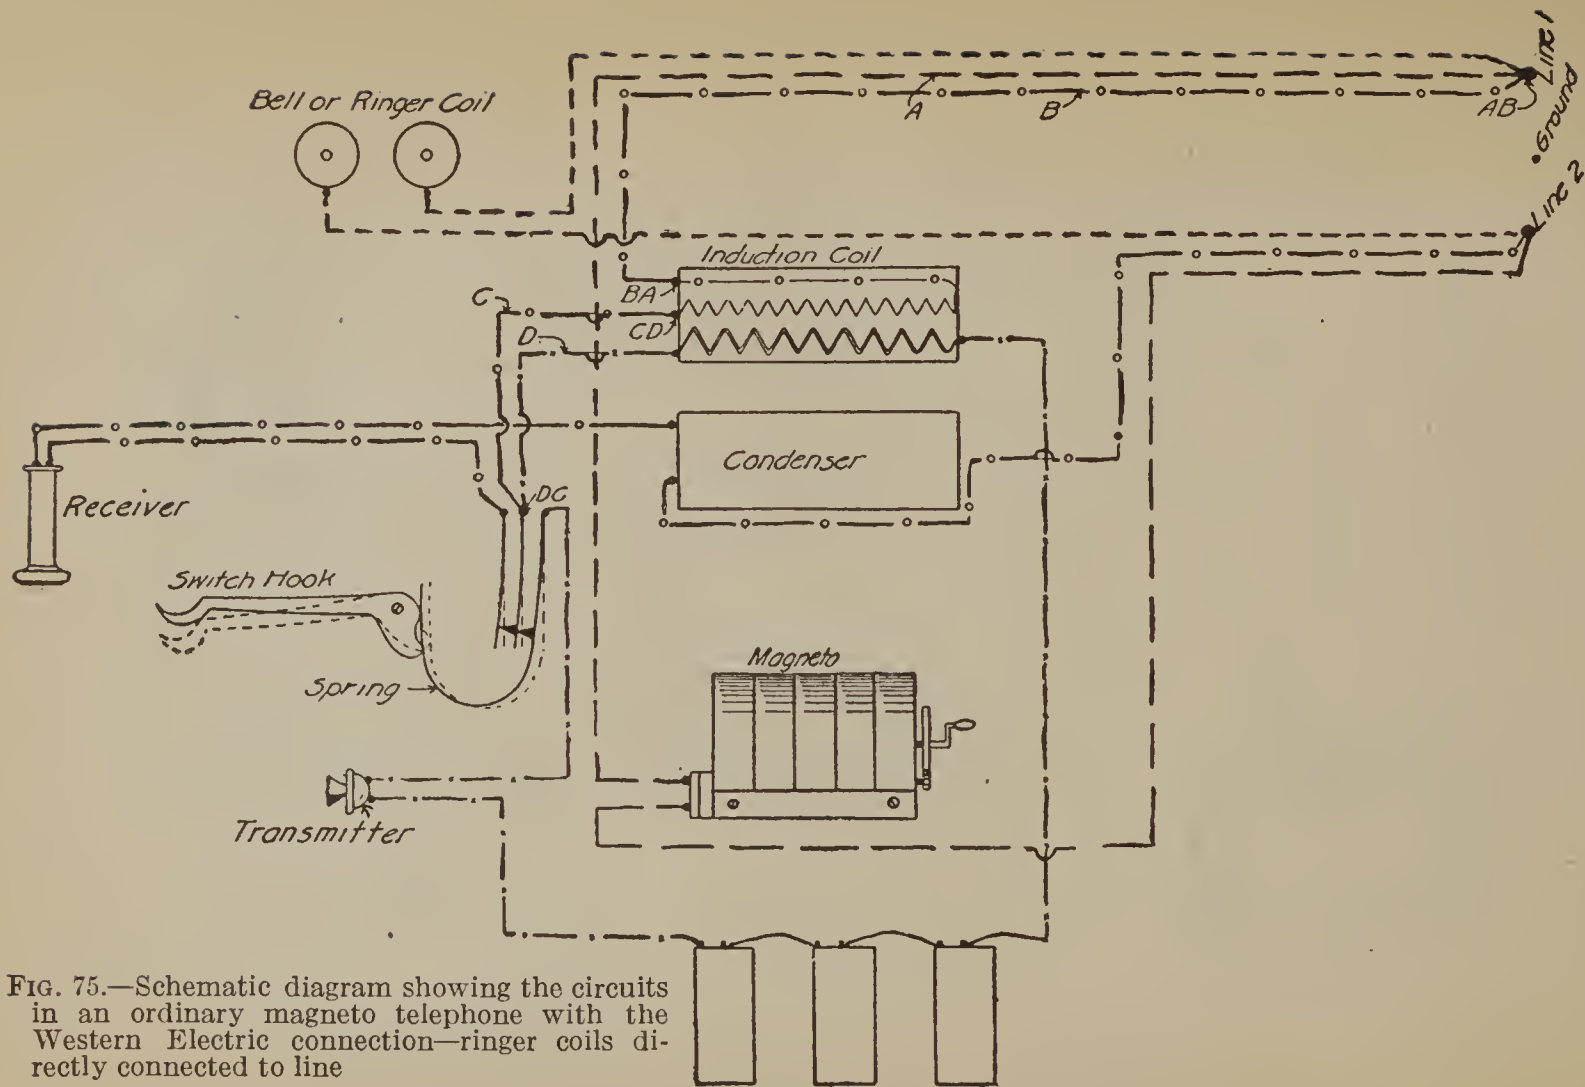
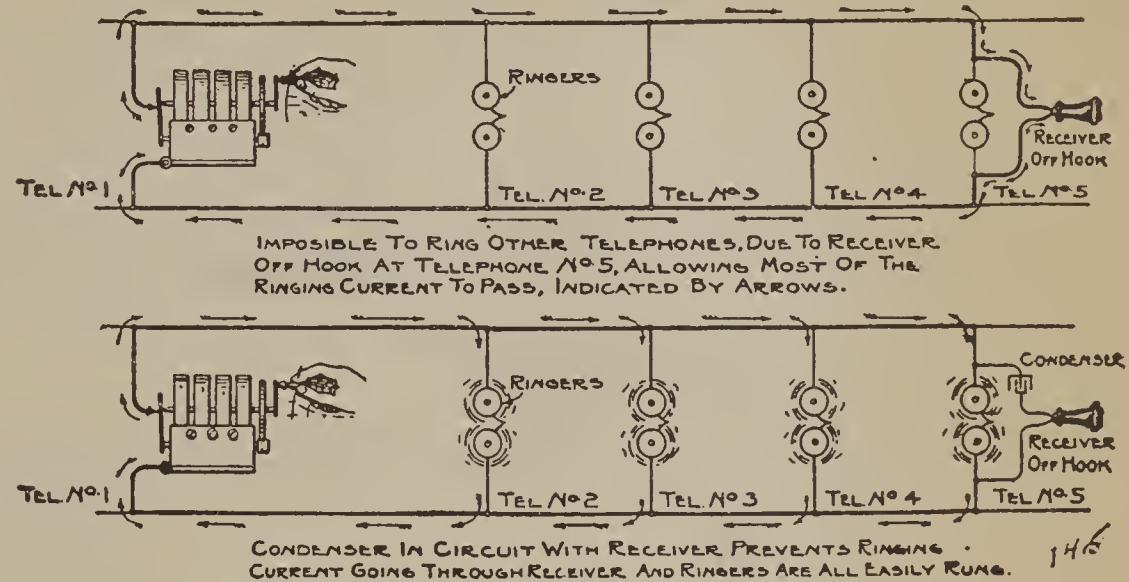

FIG. 75.—Schematic diagram showing the circuits in an ordinary magneto telephone with the Western Electric connection—ringer coils directly connected to line
FIG. 88.—Illustrating function performed by a condenser in the receiver circuit
(2) The magneto circuit (figs. 75 and 77) includes the magneto (generator).
(3) The receiving circuits (figs. 75 and 80), sometimes referred to as the secondary circuit, include the receiver, the hook switch upon which the receiver hangs, the condenser, and the secondary or fine winding in the induction coils.
(4) The transmitter circuit (figs. 75 and 79), sometimes referred to as the primary or battery circuit, includes the batteries, hook switch, primary or heavy winding in the induction coil, and the transmitter. This circuit is not directly connected to the line.
The switch hook is in both receiver and transmitter circuits. (See fig. 75.) Some makes of telephones have four springs, two for each of the transmitter and receiver circuits. The action is similar in either case. When the receiver is off the hook, all springs make contact; when it is on the hook, all should clear. If they do not clear each other when the receiver is on the hook, the battery will run down rapidly, as the circuit would be closed all of the time. Bend them a little if necessary
condenser as with it. However, in this event when the receiver of the telephone is taken off the hook a circuit is connected to the line by means of the hook switch, which would include only the receiver and the secondary winding of the induction coil. (See fig. 75.) As their combined resistance is only about 150 ohms, it would result in a very bad ground on the line if the receiver should be left off the hook. This is shown graphically in Figure 88.